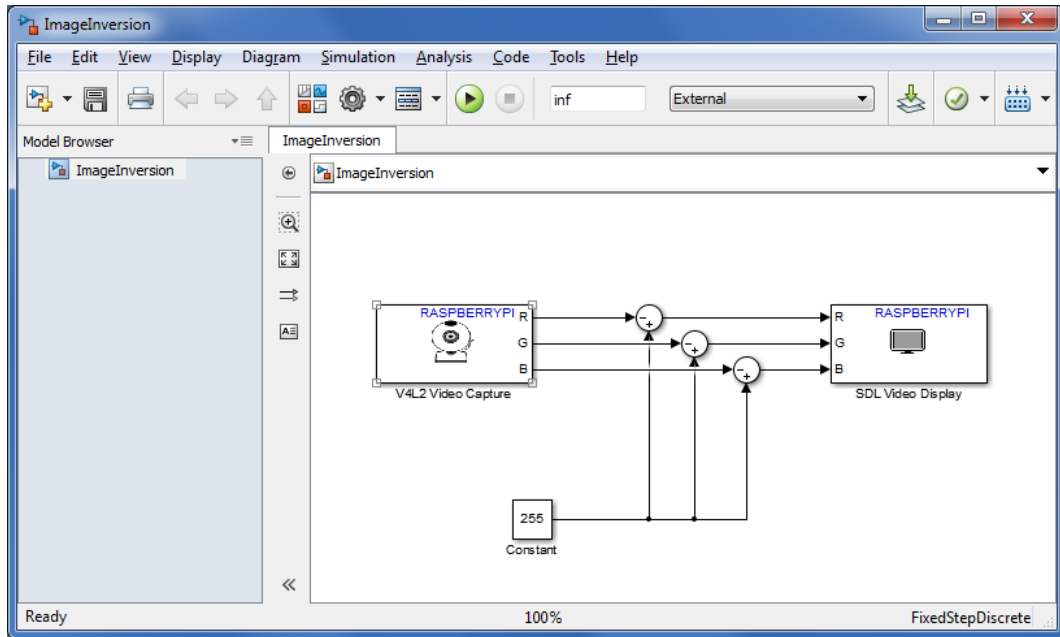

Figure 17: Image Inversion model
2. Apply the same procedure to construct the **ImageInversion** model shown in **Figure 17**. You must configure the model for running on Raspberry Pi. You’ll also need to enable **External Mode*** as shown in **Figure 18**. When using External Mode, you need to use the **RUN** button to deploy the model, and the **STOP** button to stop the model (**Figure 18**). The resulting display is shown in **Figure 19**.
* External Mode (**Figure 18**) allows you to run your model on the Raspberry Pi, while still using Simulink on your host computer as an interface to interact with your model. This allows for live parameter tuning – you do not need to stop, edit and restart the model. You just change the parameter (e.g. value in constant block in **Figure 17**) and the parameter is automatically passed to the Raspberry Pi which uses the new parameter without pausing it’s operation. External Mode also allows you to log and view data while using Simulink window. With this model we can see the output of the model with the SDL Display block (**Figure 18**) on our host computer.